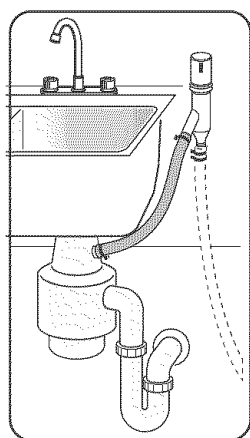

Figure 27
- 4 To a disposer dishwasher drain connection through an air gap, as shown on **Figure 27**.